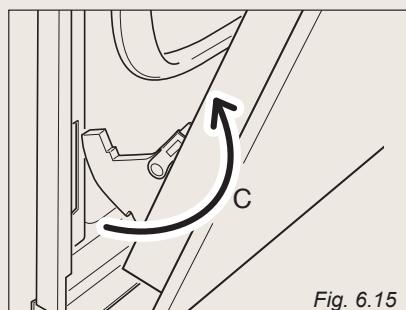

Fig. 6.15
- \* Withdraw the hinge hooks from their location following arrow "C" (fig. 6.15).